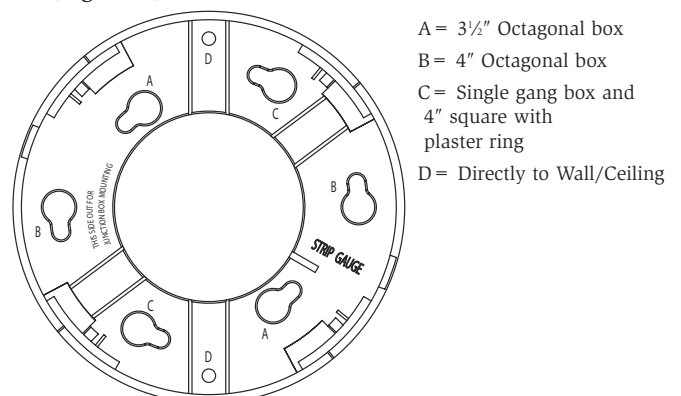
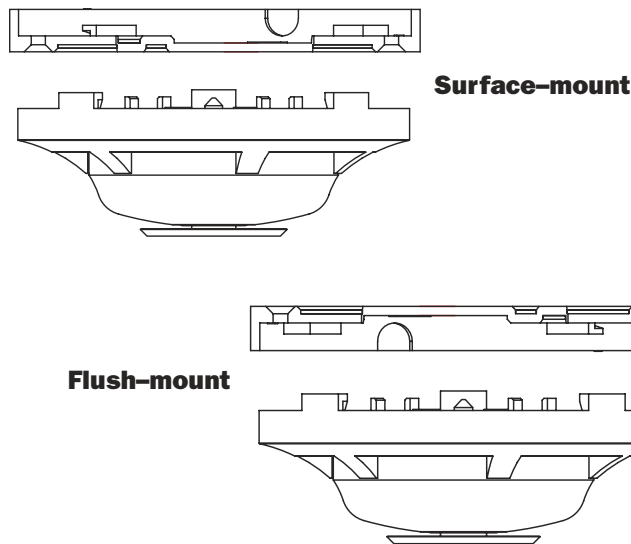

Figure 1. Bracket Mounting Locations
Figure 2. Reversible Mounting Bracket
All 5600 series detectors are equipped with a mounting bracket that includes mounting slots to accommodate single-gang, 3½" octagonal, and 4" octagonal electrical boxes, as well as 4" square boxes equipped with a plaster ring (Figure 1). The mounting bracket is reversible to accommodate flush-mount and surface-mount installations (Figure 2).
2. Orient the mounting bracket properly for either a flush- or surface-mount installation (Figure 2).
3. Select the pair of mounting holes suitable for the junction box, (figure 1) and secure the bracket to the box.